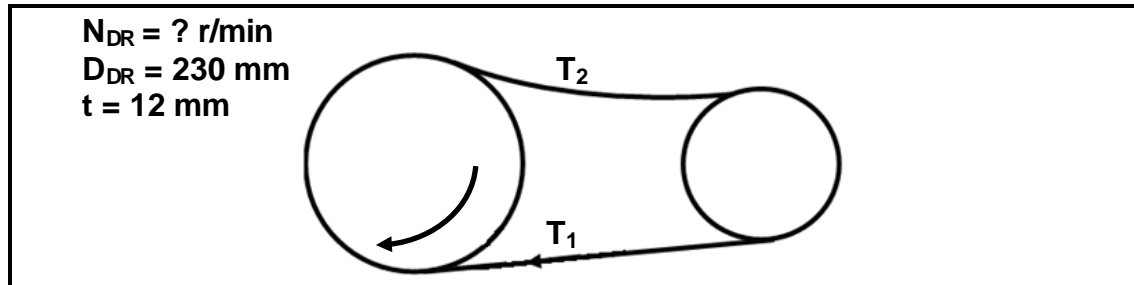

FIGURE 9.2
- 9.2 FIGURE 9.2 shows a belt-drive system with a 230 mm driver pulley. The belt speed of the 12 mm thick V-belt is 36 m.s^{-1} . The tensile force in the slack side is 110 N and the ratio between the force in the tight side and the force in the slack side is 2,5.